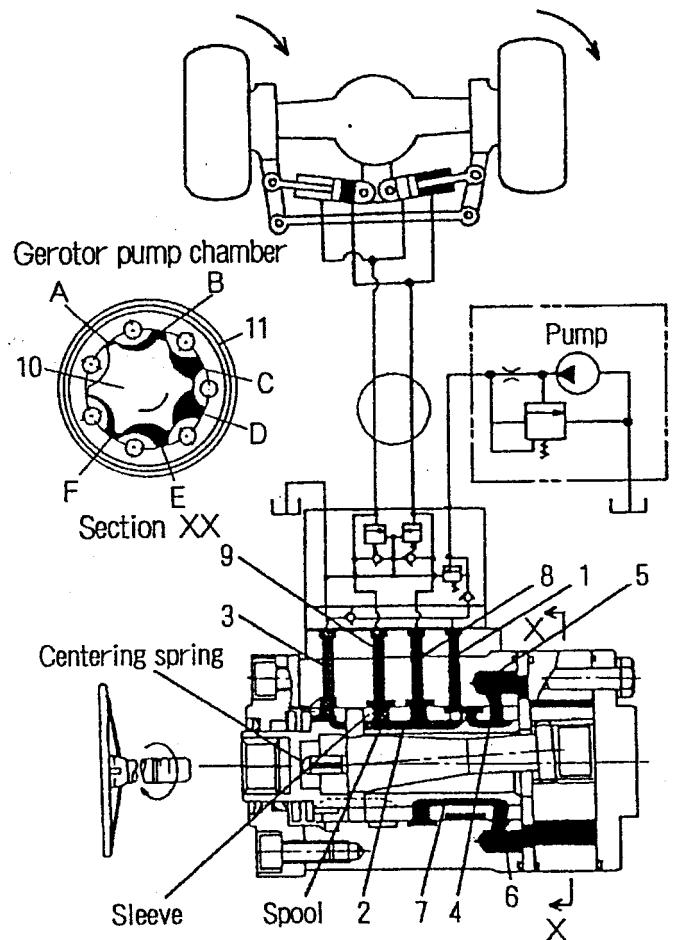

Fig. 6
(2) When steering rightward (See Figure 6.)